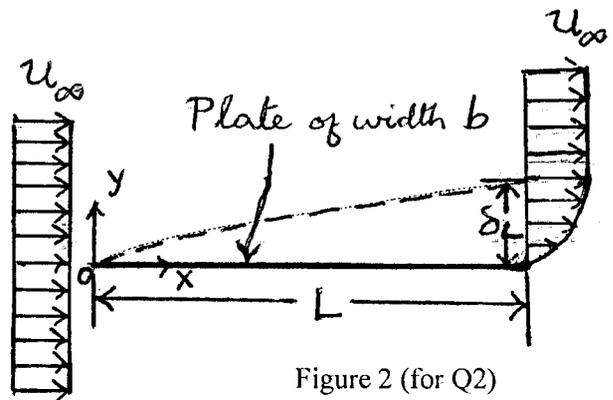

Figure 2 (for Q2)
2. Consider steady two-dimensional incompressible boundary-layer flow of a constant-property fluid over a large horizontal flat plate of length  $L$  and width  $b$ , aligned with the direction of a uniform oncoming free stream, of velocity  $\mathbf{v} = u_\infty \mathbf{i}$  (see figure 2). The velocity distribution at the trailing edge,  $x = L$ , of the plate